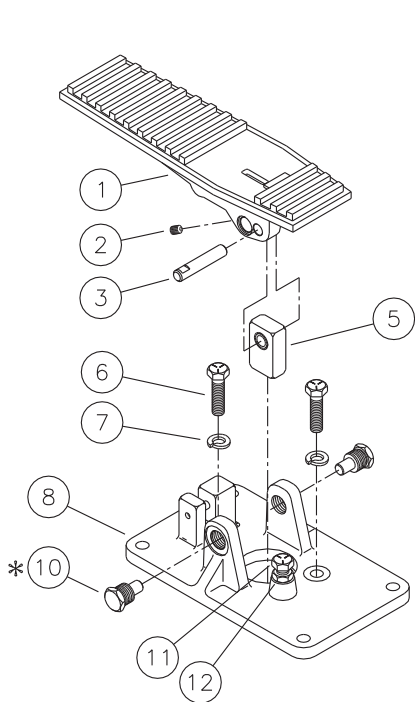

FIGURE 3
1. Depress pedal (1) and remove pedal stop screw (11) and jam nut (12) from base (8). Also loosen jam nut (13) for later removal of clevis (5).
2. Remove cap screws (6) and lock washers (7) from base (8).
3. Remove e-rings (9) from pins (10). Remove pins (10).
NOTE: Some models use threaded studs (10), Figure 3, in place of pins (10) and e-rings (9).
4. Remove set screw (2) from pedal (1). Remove e-rings (4) from both ends of pin (3). **NOTE: Not all models use e-rings (4).**
5. Separate pedal and base by removing pin (3) through clearance hole in pedal (1). Remove pedal (1) and base (8).
6. Temporarily insert pin (3) into clevis (5) and record distance from top of pin (3) to mounting flange of housing (17). This measurement will be necessary for reassembly purposes. **NOTE: Apply slight downward force on clevis (5) while taking measurement to assure that rod (22) is in contact with piston (23).**
7. Remove clevis (5) and jam nut (13) from rod (22).
8. Separate housings (17 & 32) by removing cap screws (15) and lock washers (16).
9. Remove rod (22), piston (21), spring (20), spring (19), and washer (18) from housing (17). **NOTE: Not all models use spring (19) or washer (18).**
10. Remove boot (14) from housing (17).
11. Remove piston (23), shim(s) (24) and spring (25) from housing (32) bore. Note number of shims being removed for reassembly purposes.
12. Remove o-ring (26) from housing (32) bore. **NOTE: Be careful not to scratch or mar housing bore.**
13. Remove retaining ring (27) from housing (32) bore. **NOTE: Be careful not to scratch or mar housing bore.**
18. Place base (8) on housing (17) mounting flange. Position pedal (1) and insert pin (3) through clearance hole in pedal and into clevis (5). **NOTE: Position pin so that flat area is aligned with set screw hole in pedal.**
19. Install set screw (2) in pedal (1) and torque 10.9 N·m (8 lb·ft). Install new e-rings (4) on each end of pin (3). **NOTE: Not all models use e-rings (4).**
20. Insert pins (10) through base (8) and into pedal (1). Install new e-rings (9) on pins (10). **NOTE: Some models use threaded studs (10), Figure 3, in place of pins (10) and e-rings (9).**
21. Attach base (8) to valve assembly using cap screws (6) and lock washers (7). Torque 29.8-36.6 N·m (22-27 lb·ft).
22. Fully depress pedal (1) and tighten jam nut (13) against clevis (5).
23. Install pedal stop screw (11) and jam nut (12).